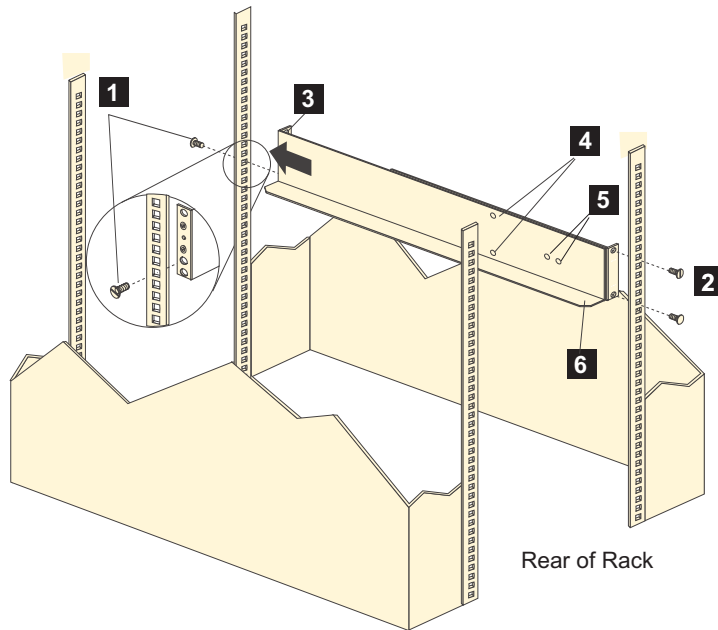

Figure 20. Installing the support rails
**Note:** Refer to Figure 20 on page 40 while performing these steps.
**Note:** The support rails are not marked as left or right. However, each rail can be correctly mounted on only one side of the rack cabinet. The rails should be mounted with the alignment pins at the back of the rack. Figure 20 on page 40 shows the installation of the left support rail.